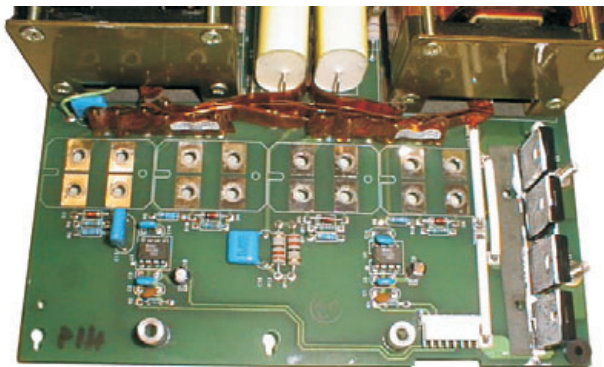

Figure 2.11. The silk screen on the circuit board shows the correct orientation of the MOSFETs. This photo also shows the four resistors (R5–R8) to be replaced.
Find where the twisted wire lead from the heat sink’s thermal sensor attaches to a pair of pins on the board, and unplug it. Detach the gate drive cable, which is an 8-conductor ribbon cable that plugs into an 8-pin header. Lift the heat sink and MOSFET assembly from the board. If the strip of fishpaper (Figure 2.11) remains stuck to the PCB, leave it there; if it comes loose, set it aside for re-assembly later.
5. Remove resistors R5 through R8 (see Figure 2.11) and replace them with 4.75 Ω ¼-watt resistors (QSC part # **RE-47501-10**).